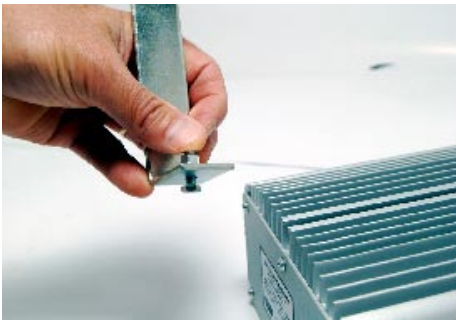

Figure 1
1. Install the included hangers and reflector bracket by sliding the bolts on the hangers and the bracket into the ballast's center channel (Figures 1 & 2).